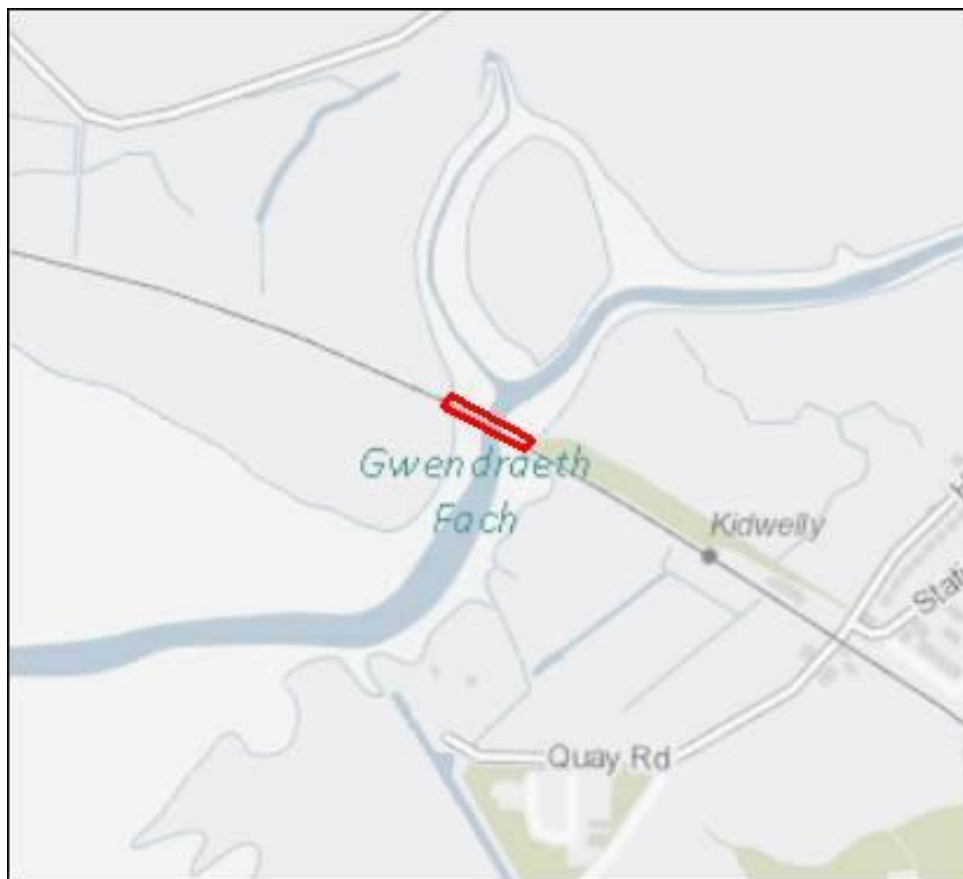

Figure 1 Site location and boundary
- Figure 1 Site location and boundary